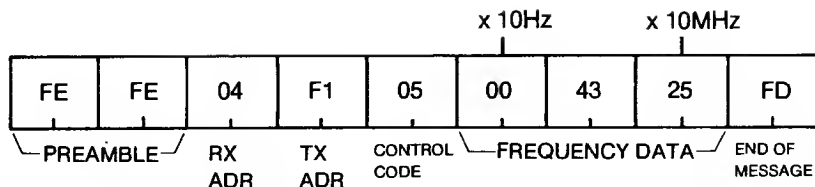

Fig. 20
(3) If the frequency data sent does not include all digits, then those digits not sent remain at the previous values. See Figs. 20 and 21.